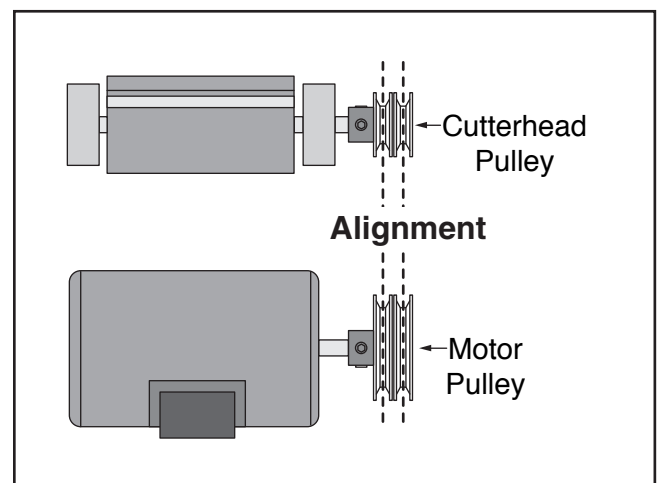

Figure 62. Pulleys aligned.
3. Visually check the alignment of the two pulleys to make sure that they are aligned and that the V-belts are straight up and down (see **Figure 62**).
6. Tighten the fasteners that hold the motor to the brackets. V-belts should be parallel and aligned as shown in **Figure 62**.